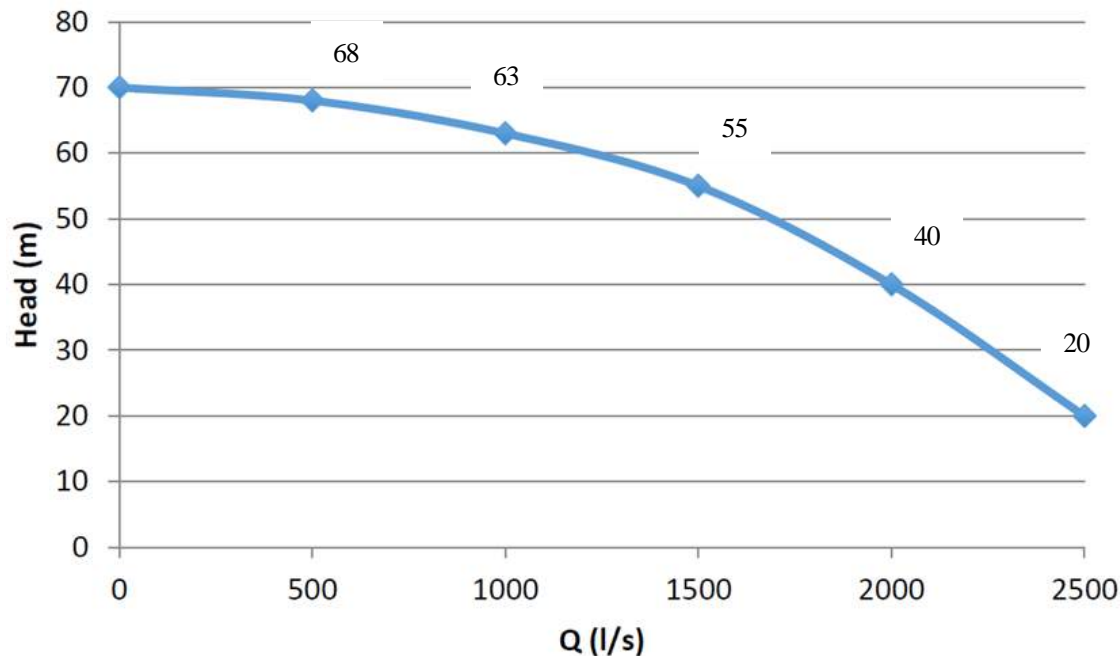

Figure 1: Pump performance curve of a single booster pump
6. Characteristics for a single pump curve are shown below (Figure 1).